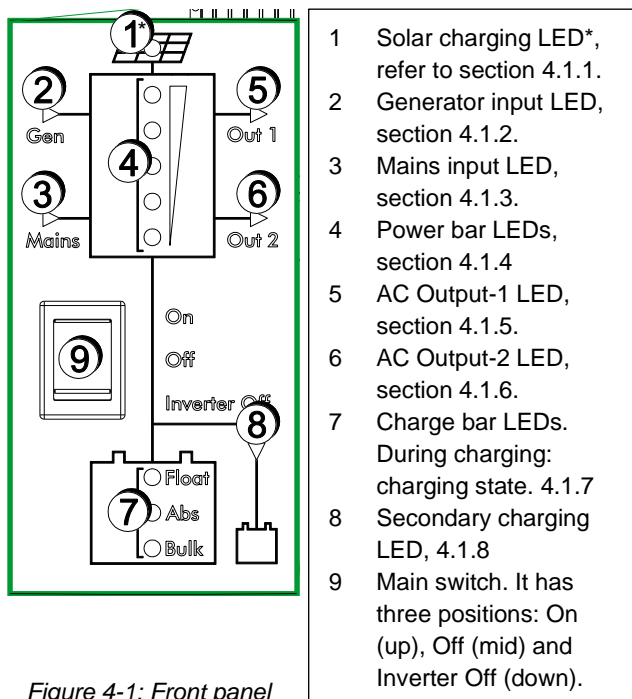

Figure 4-1: Front panel
See figure 4-1. The operation of the Mass Combi Ultra is displayed by means of LED indicators at the front side of the housing. If the Mass Combi Ultra is activated and as long as none of the red indicators are illuminated, no failure is detected and the unit is operating normally.
See figure 4-1 item 1. The illuminating top LED indicates there is a DC input from the PV system. This input is used to charge both battery banks.
See figure 4-1 item 2. The arrow is illuminated if AC power comes from the generator.
See figure 4-1 item 3. The arrow is illuminated if AC power comes from the mains.
See figure 4-1 item 4. These LEDs have a double function, depending on the mode the Combi Ultra is in.
See figure 4-1 item 5. The illuminated arrow indicates that AC Output-1 is powered.
See figure 4-1 item 6. The illuminated arrow indicates that switched AC Output-2 is powered.
See figure 4-1 item 7. The 3-LED bar has two functions.
See figure 4-1 item 8. The illuminating arrow indicates the secondary battery is being charged.
See figure 4-1 item 9. The only control on the Mass Combi Ultra itself is the main switch on the front of the unit. This switch controls on, off and Inverter off (Charger only).